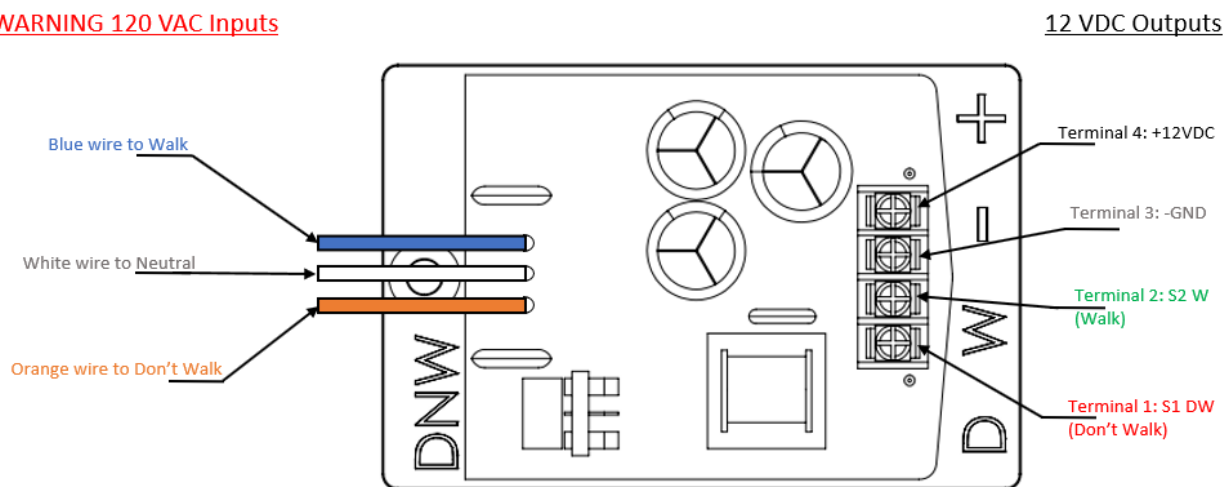

Figure 2. SPI Installed
2. Open the Pedestrian Signal Head Display and locate a ¼-20 tapped hole on the back wall close to the 120VAC three position barrier strip as shown in Figure 2.
3. Mount the SPI horizontally using a 1/4-20 1" FHP. It is important that the wires coming out of each side of the SPI sag below the SPI to prevent water from running down the wires, into the SPI. Figure 2 shows the drip loop in the 120 VAC lines and its location to the barrier terminal inside the Pedestrian Signal Head.